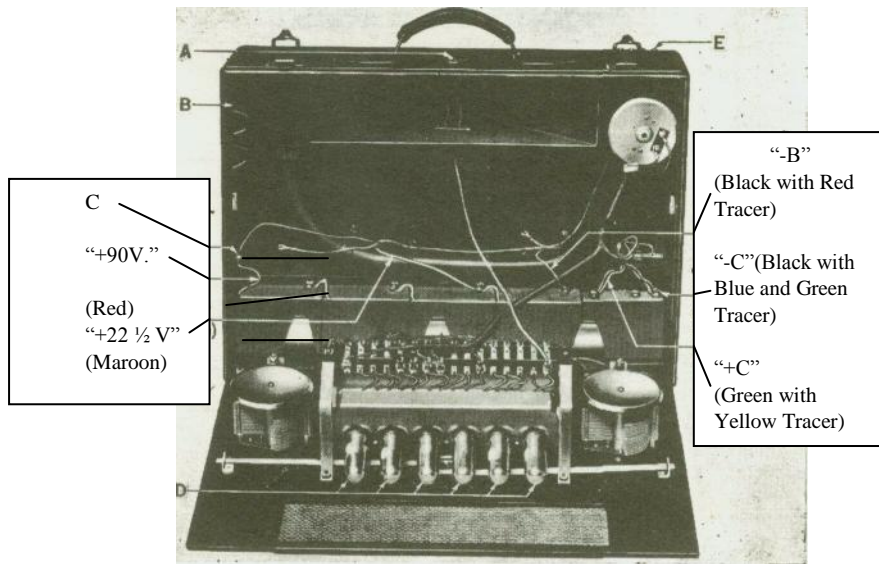

Fig. 1 Connections of the "C" and "B" Batteries for Portable Use
Place the "C" battery in the right hand rear corner of the battery space, just in front of the condenser, as shown in Fig. 1. Connect the lead marked "+C" (green with yellow tracer) to the terminal of the battery marked "+." Connect the lead marked "-C" (black with blue and green tracer) to the battery terminal marked "-4.5."
When using these batteries the plug H on the end of the cable is plugged into the socket E (shown in Figs. 1 and 2), making certain that it is facing in the right direction, that is, with the cable coming from the rear of the plug. Use the same
*Placing Radiotrons in Sockets.* Radiola 24 utilizes six Radiotrons, Model UV-199, which should be handled with due care. To install the Radiotrons, the panel should be opened to the position shown in Fig. 1.
*Maintenance.* Very little maintenance will be required on Radiola 24, outside of an occasional oiling of a few of the parts. The oiling operation is important, and should be done about once every six months. To oil the moving parts, turn both "STATION SELECTOR" pointers as far right as possible, and open the panel of the set to the horizontal as in Fig. 1. Then place one drop of good grade oil, such as typewriter oil, on each of the following parts of both "STATION SELECTORS":
(1) On the front and rear bearings of the shafts, where the shafts pass through the black molded sub-panels.
(2) On the bushings in the panel which hold the "SELECTOR" knobs.
(4) On the spring bearing of the slanting knob shaft (which spring bearing presses against the black insulation collar).
If the set becomes inoperative, try interchanging the Radiotrons. The second tube from the right (when facing the front of the set) is the important one and it is well to determine first whether this tube is working properly. This may be done by touching the moistened finger to the stationary condenser plates of "STATION SELECTOR II," on the rear of the panel. A sharp click should be heard in the loud speaker. If none is heard, try interchanging this tube with either the third, fourth, or fifth Radiotrons, applying the click test each time. Use for the second Radiotron from the right (when facing the front of the set), the one which gives the sharpest click in the loud speaker. If the set is still not operative, push in the amplifier switch S, and remove the Radiotron on the extreme left-hand end, from its socket. Try substituting this tube for the first, third, fourth and fifth Radiotrons, operating the set each time, to ascertain if the reception has been improved. If no improvement is noted an examination of the batteries and their connections should be made. It is of advantage to keep a spare Radiotron UV-199 on hand, to meet emergencies. Pockets B (Fig. 1) are provided on the inside of the suit-case to carry spare tubes.
There are several indications by which the user may determine that the filament or "A" batteries are becoming exhausted. These are low filament brilliancy, weak signals, and distortion, the signals becoming less and less recognizable. When it is found necessary to turn the "BATTERY SETTING" knob up to "100," and the operation of the set is still unsatisfactory (or when it is necessary to turn the "BATTERY SETTING" knob to 100 to get 3 volts on the filament, if a voltmeter is used), it is a definite indication that the filament batteries are exhausted. When fresh batteries are installed for the first time, listen to the loud speaker, while pushing the amplifier switch S in and out. Sharp "clicks" will be heard in the loud speaker. Do this sufficiently to learn just how loud the click should be. If the "B" batteries have become fairly well exhausted, these clicks will become practically imperceptible—an indication that they need replenishing. A better method of test is, of course, to use a voltmeter of suitable range (100 to 150 volts scale, preferably of the high resistance type), for measuring the "B" battery voltage. Connect the positive (+) voltmeter terminal to the "+90 Volt" binding post C (Fig. 1), and the negative (—) terminal to the "—" terminal of the right-hand "B" battery. When the voltage has dropped to 68 volts total, or to 17 volts per battery, the batteries should be replaced.